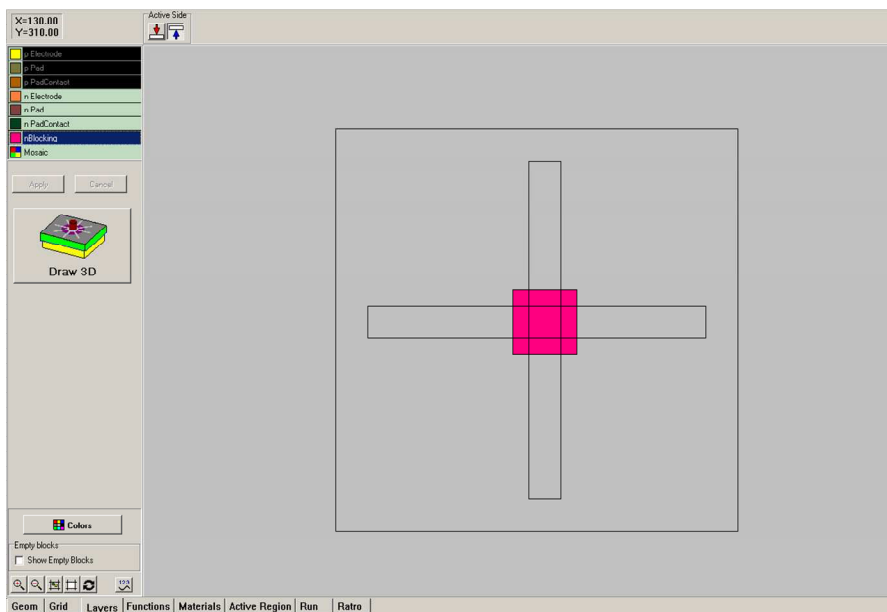

Fig. 31
**n-blocking.** Area of the current blocking (insulating material) under n-electrode (see Fig. 31), if it is included into **Chip Configuration**.